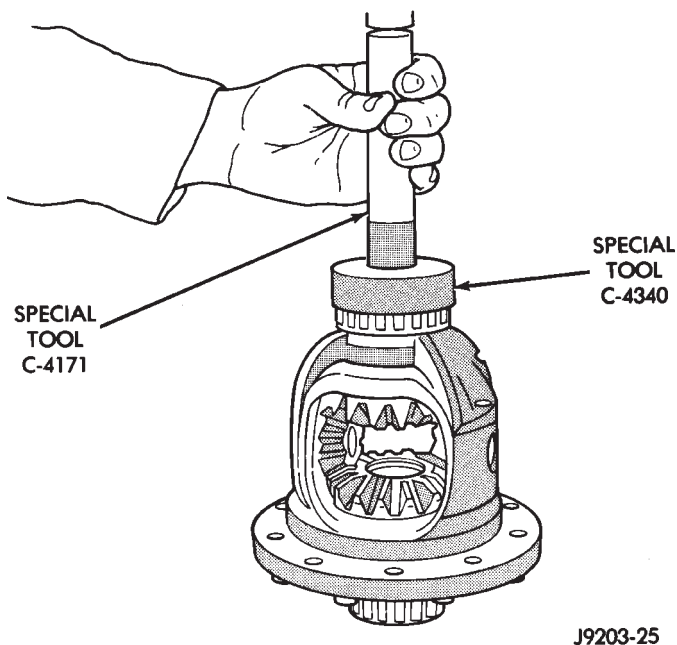

Fig. 19 Differential Bearing Installation
(9) Install a differential bearing on each hub with Installer C-4340 and Handle C-4171 (Fig. 19).